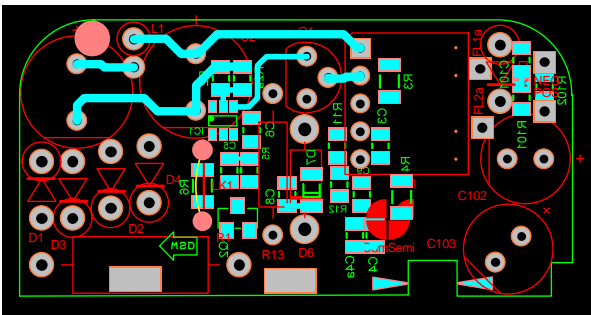

Figure 2: PCB Design with MCP Indicated
The primary current loop must be kept as small as possible. Figure 2 shows a typical PCB design with the main current path (MCP) indicated with PCB tracking; the main current path is a tight loop.
- Primary Current Path - Figure 2